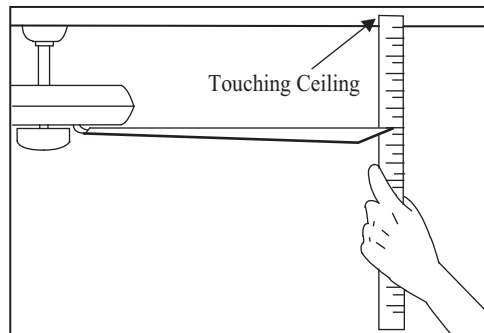

Figure 6
2. Most fan wobble problems are caused when blade levels are unequal. Check this level by selecting a point on the ceiling above the tip of one of the blades. Measure from a point on the center of each blade to the point on the ceiling. Measure this distance as shown in Figure 6. Rotate the fan until the next blade is positioned for measurement. Repeat for each blade. Measurements deviation should be within  $1/8$ ". Run the fan for 10 Minutes.